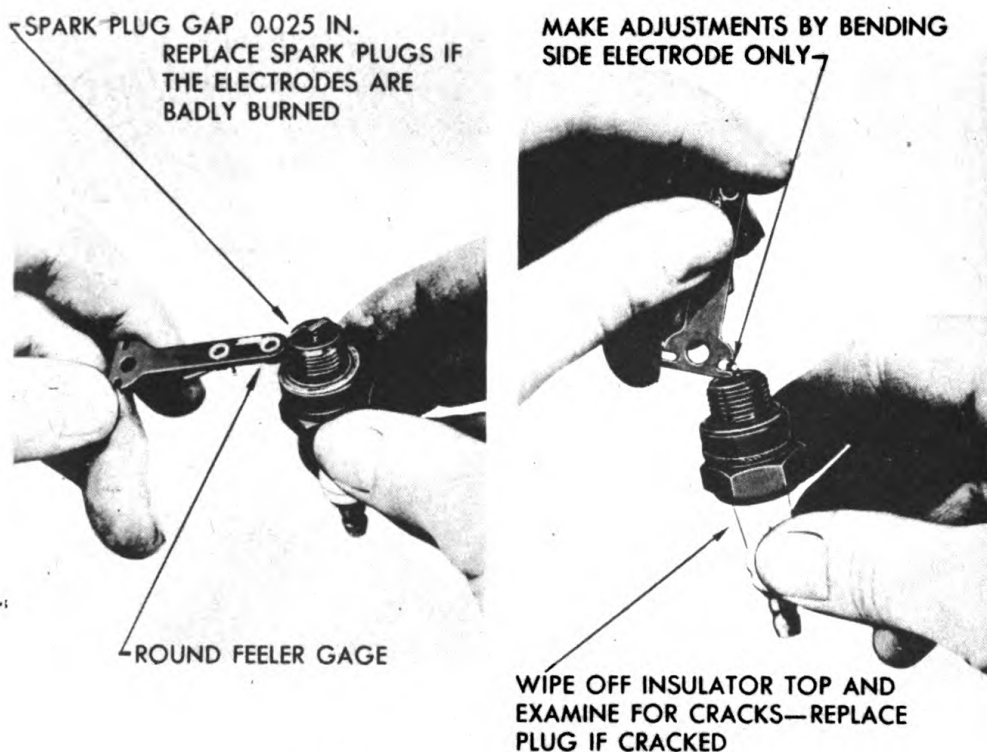

Figure 26—Spark Plug Adjustments
a. Remove spark plugs from engine and wipe exterior of plugs clean and dry. Clean the plugs and inspect for mechanical defects. Reset gap to 0.025 inch and test in tester before installing in engine. Use round feeler gage and make all adjustments on the side wire of the plug. (Figure 26.) If the center electrode is bent, the porcelain